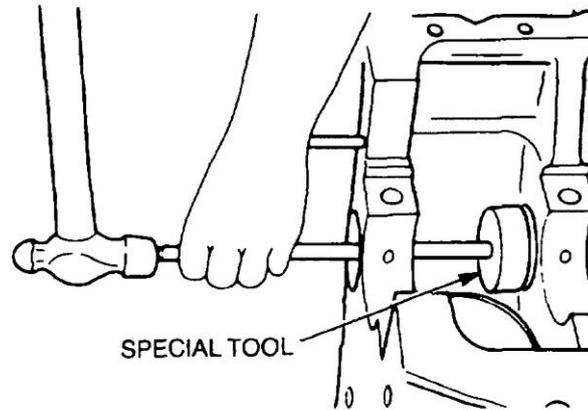

Figure 39 Removal of the Camshaft Bearing
- a. Position special tool 9-8523-1818-0 over the camshaft bearing and drive the bearing from the engine block by hitting the end of the special tool with a hammer (Figure 39). Repeat this procedure for each bearing.